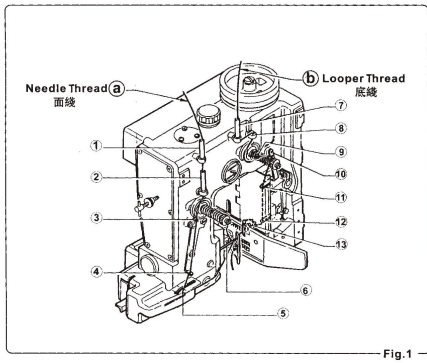

Fig. 1
- Thread the machine as shown in figure 1
- Thread ① on the left side of thread stand is upper thread. Thread it points ② through ③ in order.
- Thread ④ on the right hand side of thread stand is lower thread. Thread it points ⑤ through ⑥ in order.
No stitching at all, or thread break or skipping stitches result if the machine is not properly threaded. Check the threading with Figure 1, and be sure both upper and lower threads are correctly threaded.